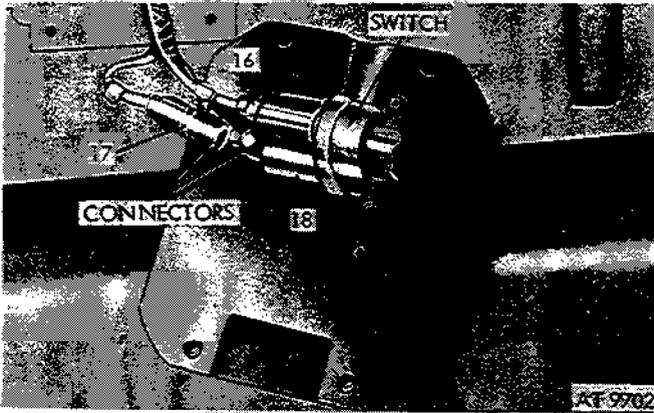

Figure 2-212. Pull connectors from switch.
(10) Disconnect connectors at left taillight (fig. 2-258) (M151, M151A1, M151A1C, and M718 vehicles). Remove three screws and lockwashers securing cover plate (fig. 2-212), and disconnect four connectors to rear composite light assembly (fig. 2-213) (M151A2, M825, and M718A1 vehicles).